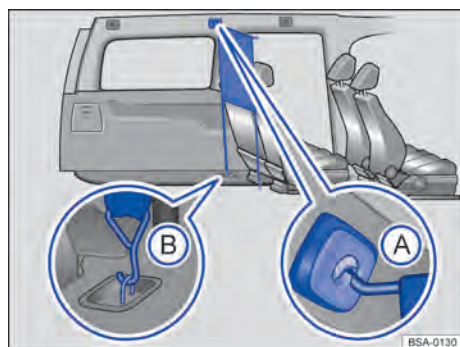

Fig. 133 Behind the second row of seats: Fitted net partition.
- Hook the net partition into the *rear left* holder in the roof → Fig. 133 Ⓐ. Ensure that the transverse rod is pulled up over the upper position so that it latches securely in the slots.
- Hook the net partition into the lower fastening rings → Fig. 133 Ⓑ.